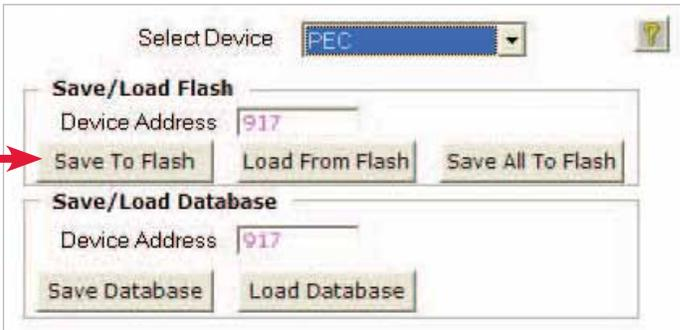

Figure 5.3-11: Save to Flash Button
7. From the **Maintenance** screen, click the **Save to Flash** button shown in **Figure 5.3-11**. For more information about loading to flash memory, see **Section 5.1: Save to and Load from Flash**.